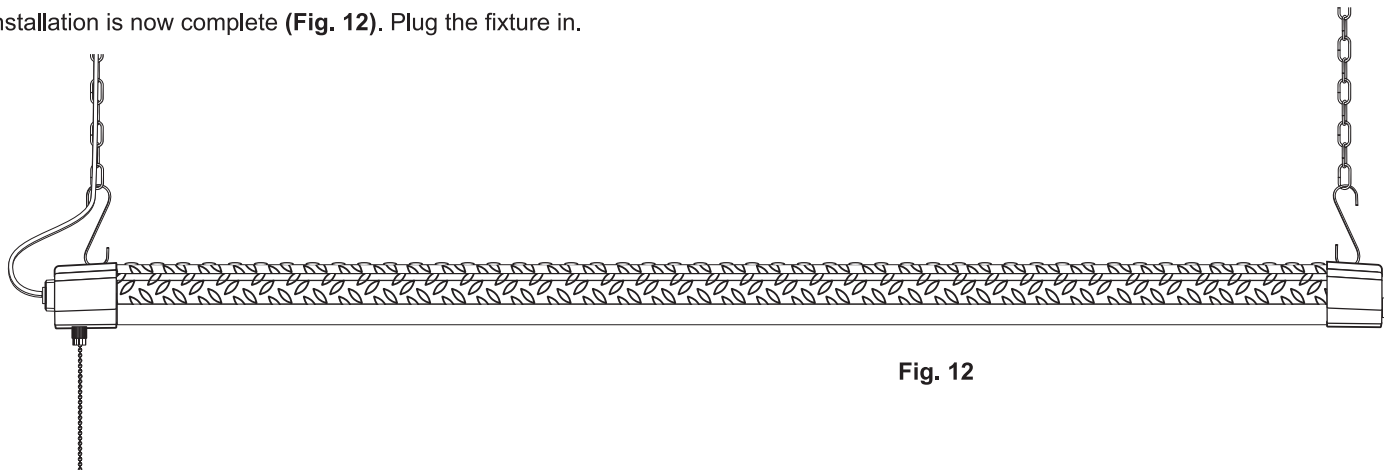

Fig. 12
3. Your installation is now complete (**Fig. 12**). Plug the fixture in.